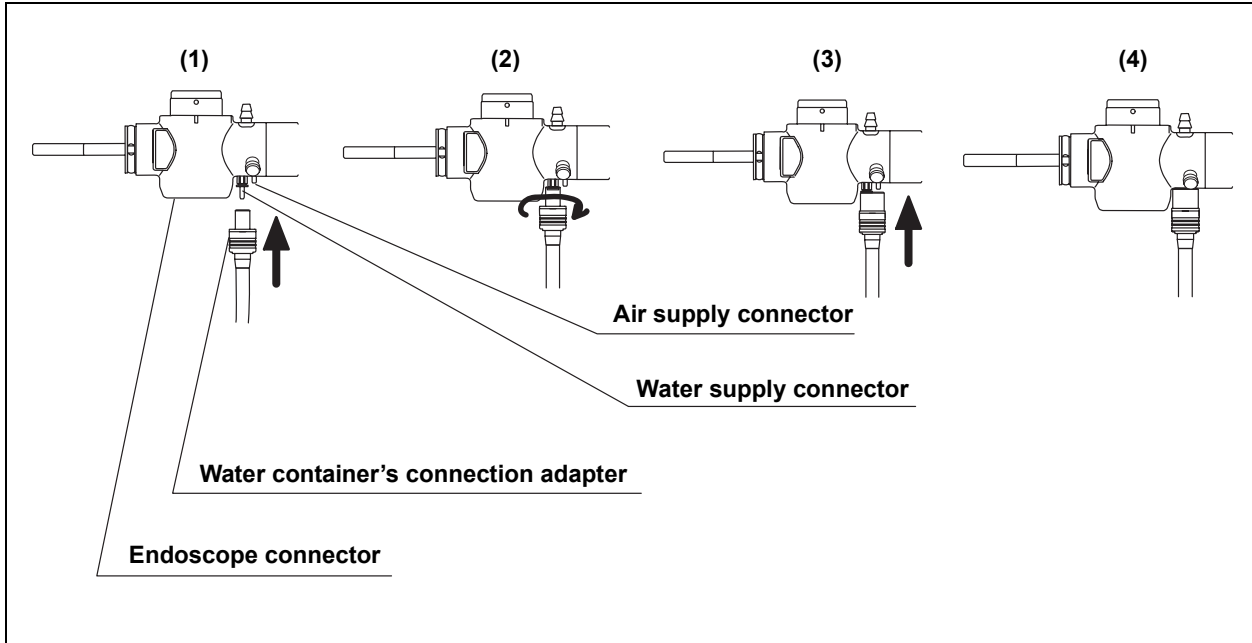

Figure 3.16
3. Connect the water container's connection adapter to the air supply connector and water supply connector (see Figure 3.16).